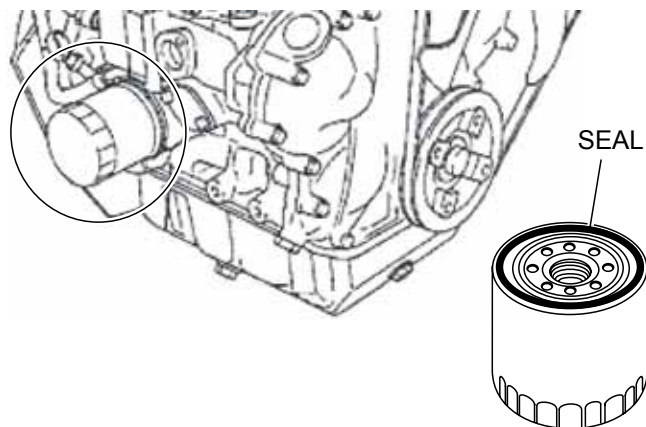

Figure 13. Oil Filter
1. Replace the engine oil filter (Figure 13) every other oil change or 300 hours. Refer to your engine manual for specific details to perform this operation.